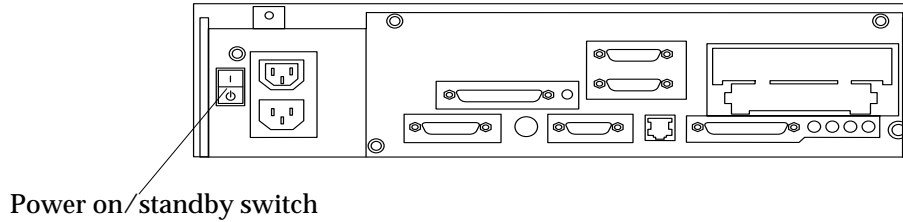

FIGURE 2-1 Rear View of an Ultra 1 System
6. Press the power on/standby switch to standby (⏻) (FIGURE 2-1).